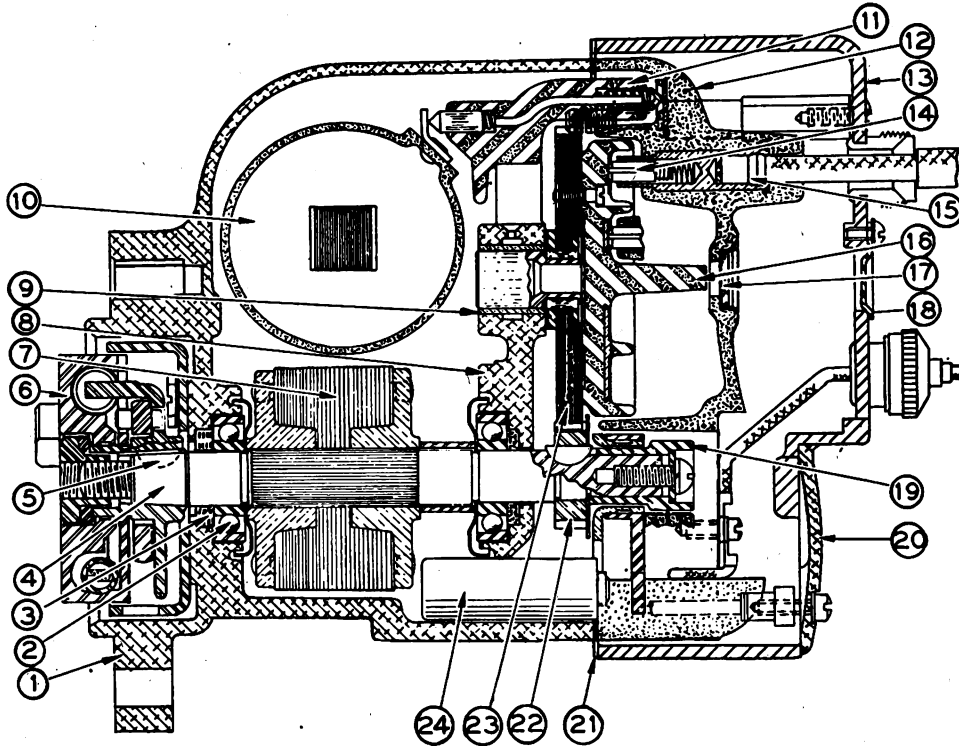

Fig. 32. Longitudinal Section through Magneto
The magneto, which produces an ignition spark only at certain definite points in the rotation of the magnet rotor ⑦ (see Figs. 32 and 33), must be connected to the engine in such a manner that the spark is available always at the instant when required in the cylinder, i.e., about top dead center of compression stroke, with magneto set in retard position. The proper operating results are obtained by timing the engine and the magneto as follows (see Figs. 32 and 33). It is unnecessary to remove the distributor plate for this purpose.
Remove the cap ⑳ from radio shield cover ⑬ (refer to Figs. 32 and 33). To prevent the engagement of coupling weights, rotate the impulse coupling ⑥ in the opposite di-